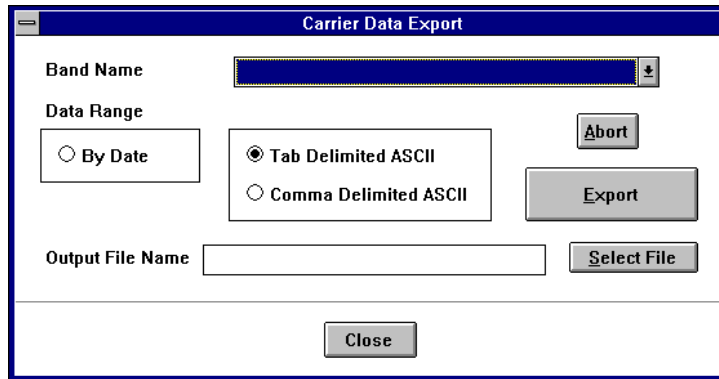

Figure 9-6: Carrier Data Export Dialog Box
1. Select **Carrier Measurements...** from the Export Data selection list to open the **Carrier Data Export** dialog box (Figure 9-6).